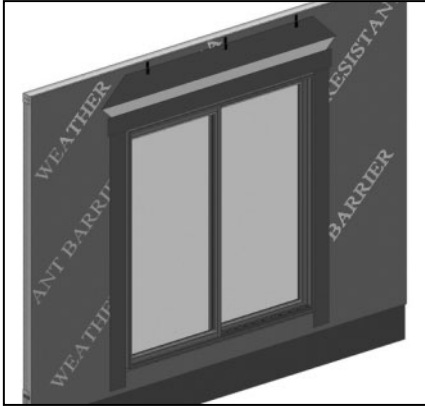

FIG. 25
- A) Cut and apply side flashing. Side flashing should run from the bottom of the sill flashing to 8" above the rough opening. (Fig. 25)